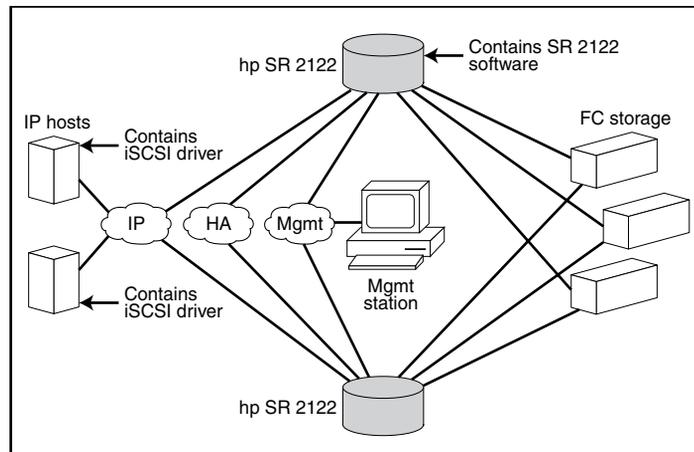

Figure 33: SCSI Routing basic network structure
Figure 33 shows the basic structure of a SCSI routing network. IP hosts with iSCSI drivers access the storage routers through an IP network connected to the Gigabit Ethernet interface of each Storage Router. The storage routers access storage devices connected to the Fibre Channel interfaces of each Storage Router. A management station manages the storage routers through an IP network connected to the management interface of each Storage Router. For high availability (HA) operation, the storage routers communicate with each other over two networks: the HA network connected to the HA interface of each Storage Router and the management network connected to the management interface of each Storage Router.